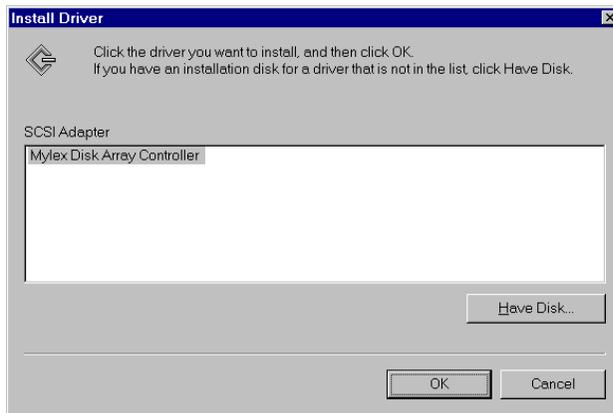

Figure 3-13. Install Another Driver
15. The Install Driver box is displayed (Figure 3-13).